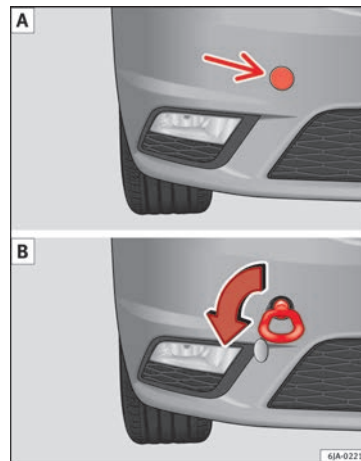

Fig. 65 Right side of the front bumper: towline anchorage screwed in.
- Screw the front towline anchorage into the screw connection » **Fig. 65** and tighten it with the wheel brace.